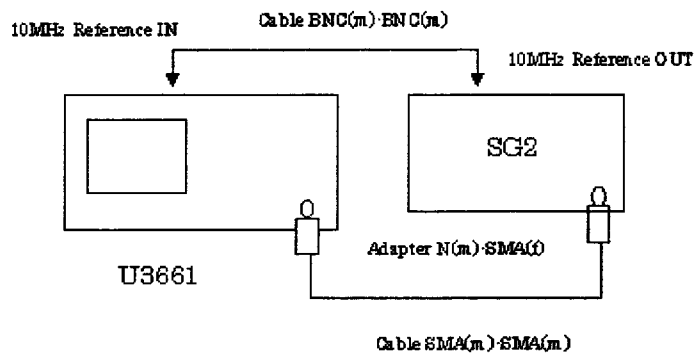

Figure 3-10 Setup of Residual FM Test
1. Connect the equipment as shown in Figure 3-10.